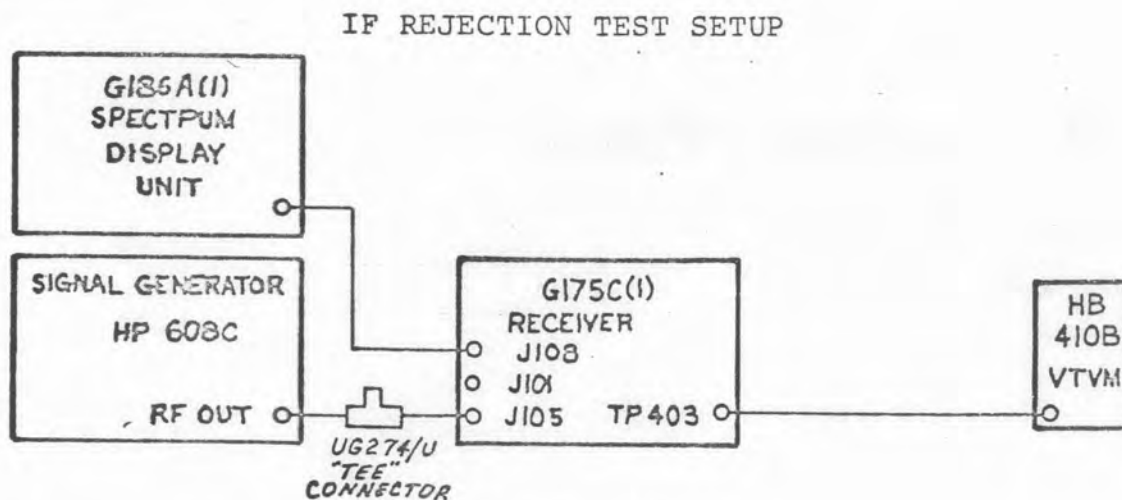

Figure 5-17
a. Connect equipment as shown in figure 5-17.
a. Connect equipment as shown in figure 5-17 except connect RF out from signal generator to J101.
- a. Connect equipment as shown in figure 5-17.
- a. Connect equipment as shown in figure 5-17, except connect RF out from signal generator to J101.